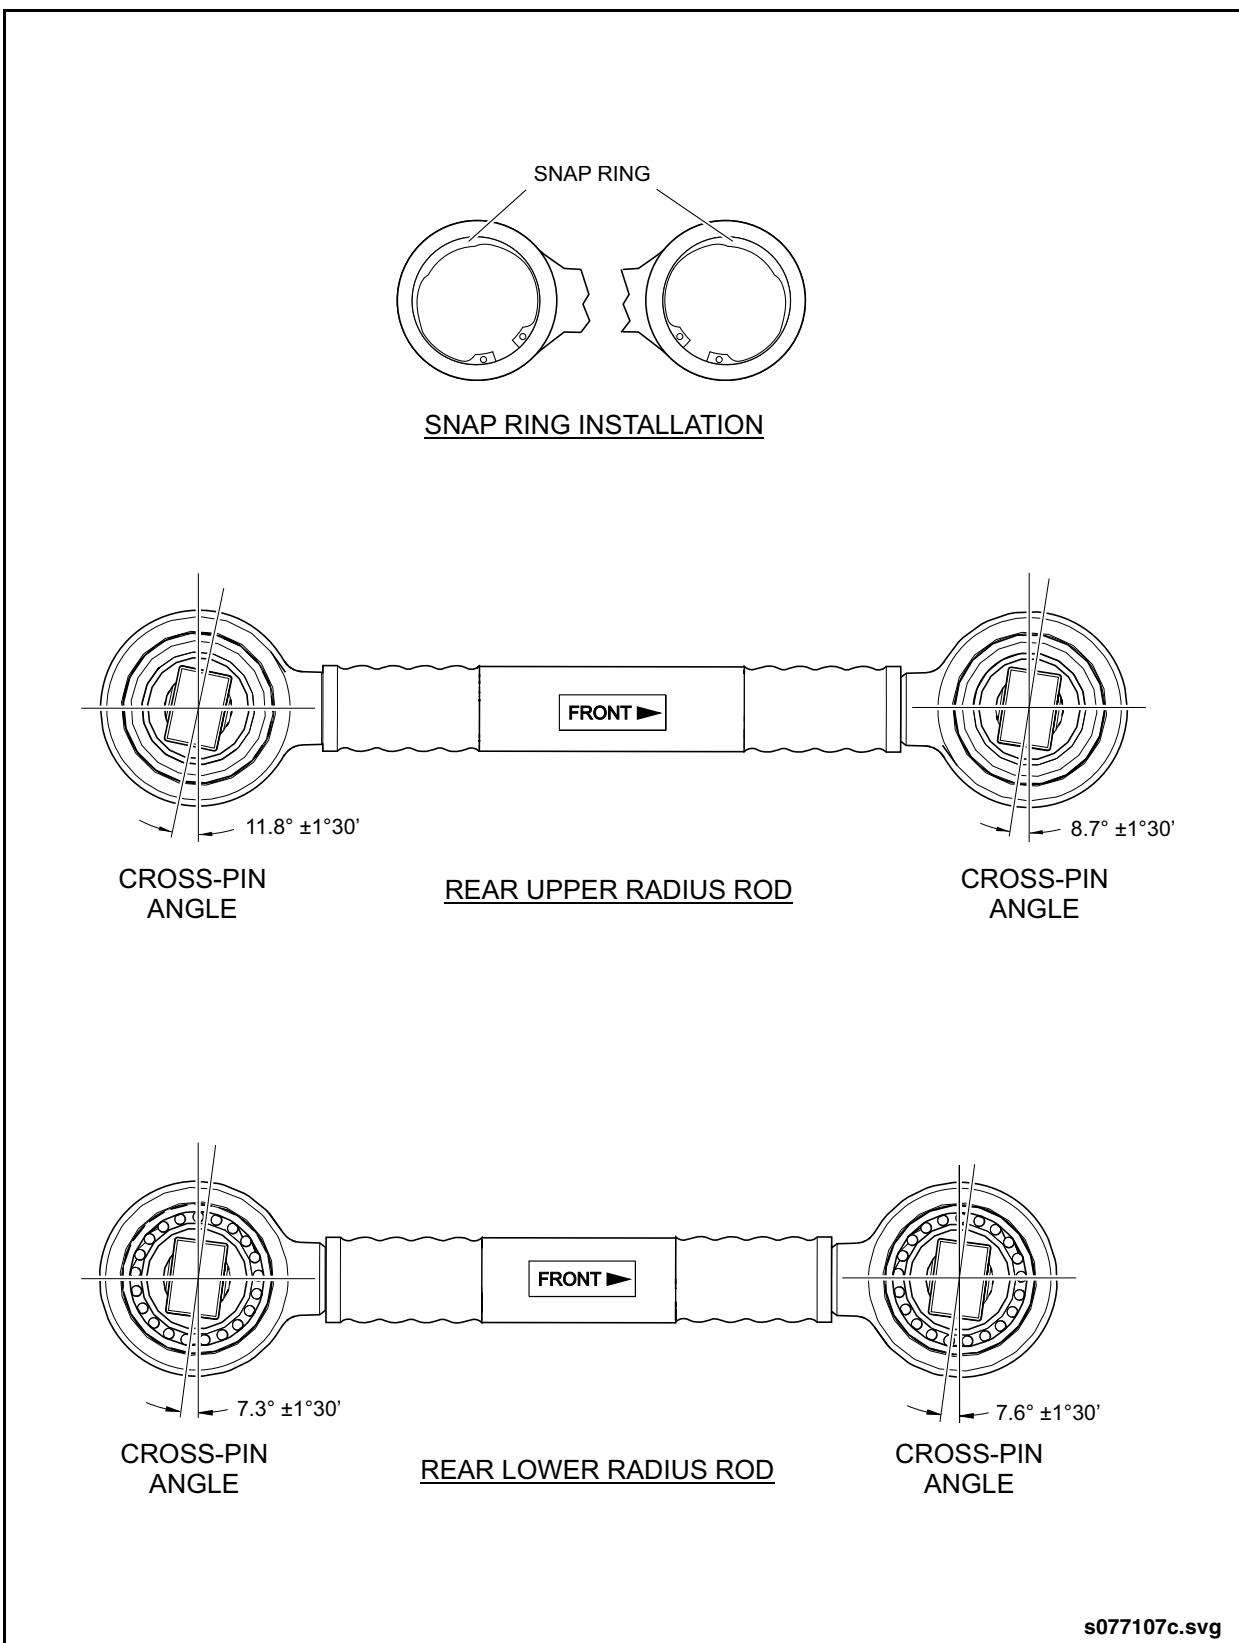

Fig. 2-105: Rear Radius Rod Bushing Replacement
9. Insert bushing into bore of radius rod so that the cross-pin angle is properly aligned. See "Fig. 2-105: Rear Radius Rod Bushing Replacement" on page 87.